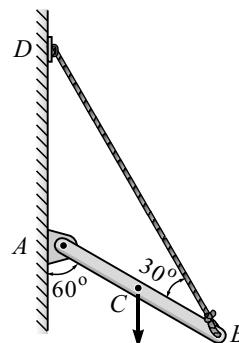

Fig. 3.E6
7. A string ACB of length l carries a small pulley C from which a load W is suspended as shown in Fig. 3.E7. Find the position of equilibrium as defined by the angle α .